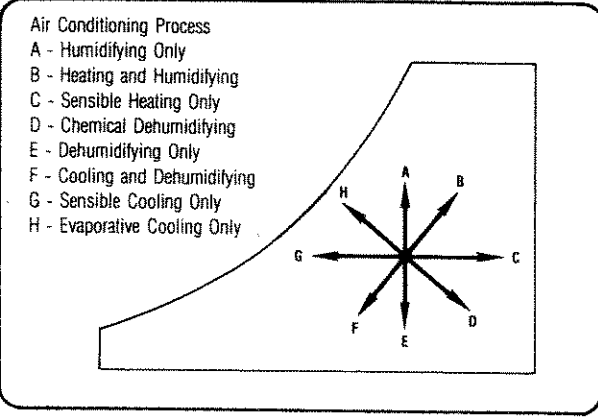

FIGURE 2
- Problem 2: Given air at 28 C DB and 15 C WB. Refer to Figure 2. Determine: